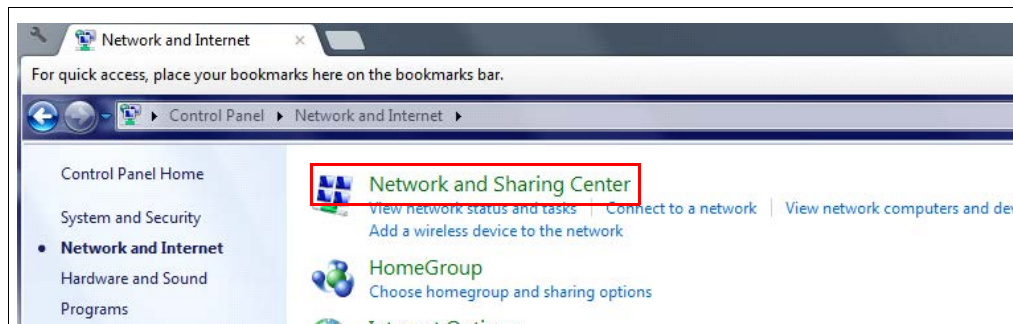

Figure 11. Select Network and Sharing Center
2. Select **Network and Sharing Center** (Figure 11):